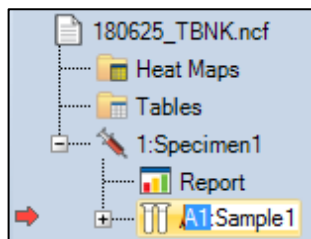

Figure 14. Modify Well ID in the Experiment Manager Panel
- Click **Sample1** in the **Experiment Manager** panel to select the node (Figure 14). Right-click and select Rename. The **Well ID** can now be modified to A2.